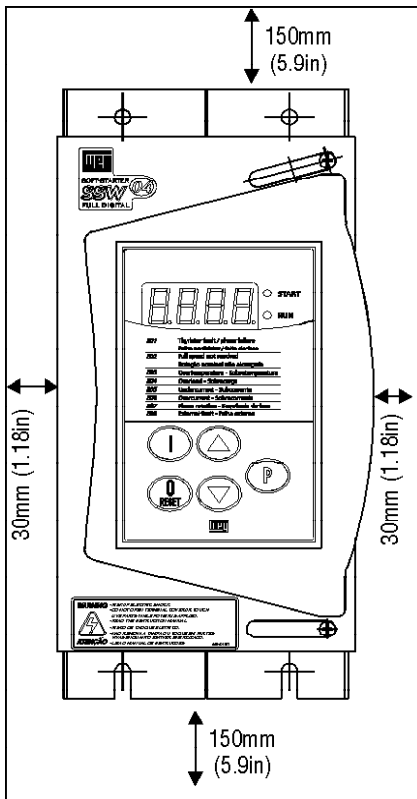

Figure 3.1 - Free space for ventilation
- Allow for free space around the SSW-04, as shown in Fig. 3.1.